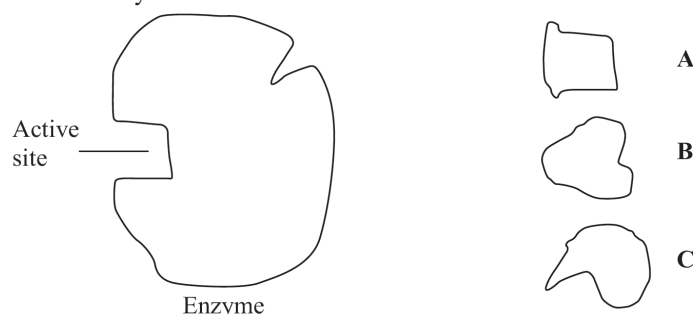

Figure 1
- 1 **Figure 1** represents an enzyme molecule and three other molecules that could combine with it.